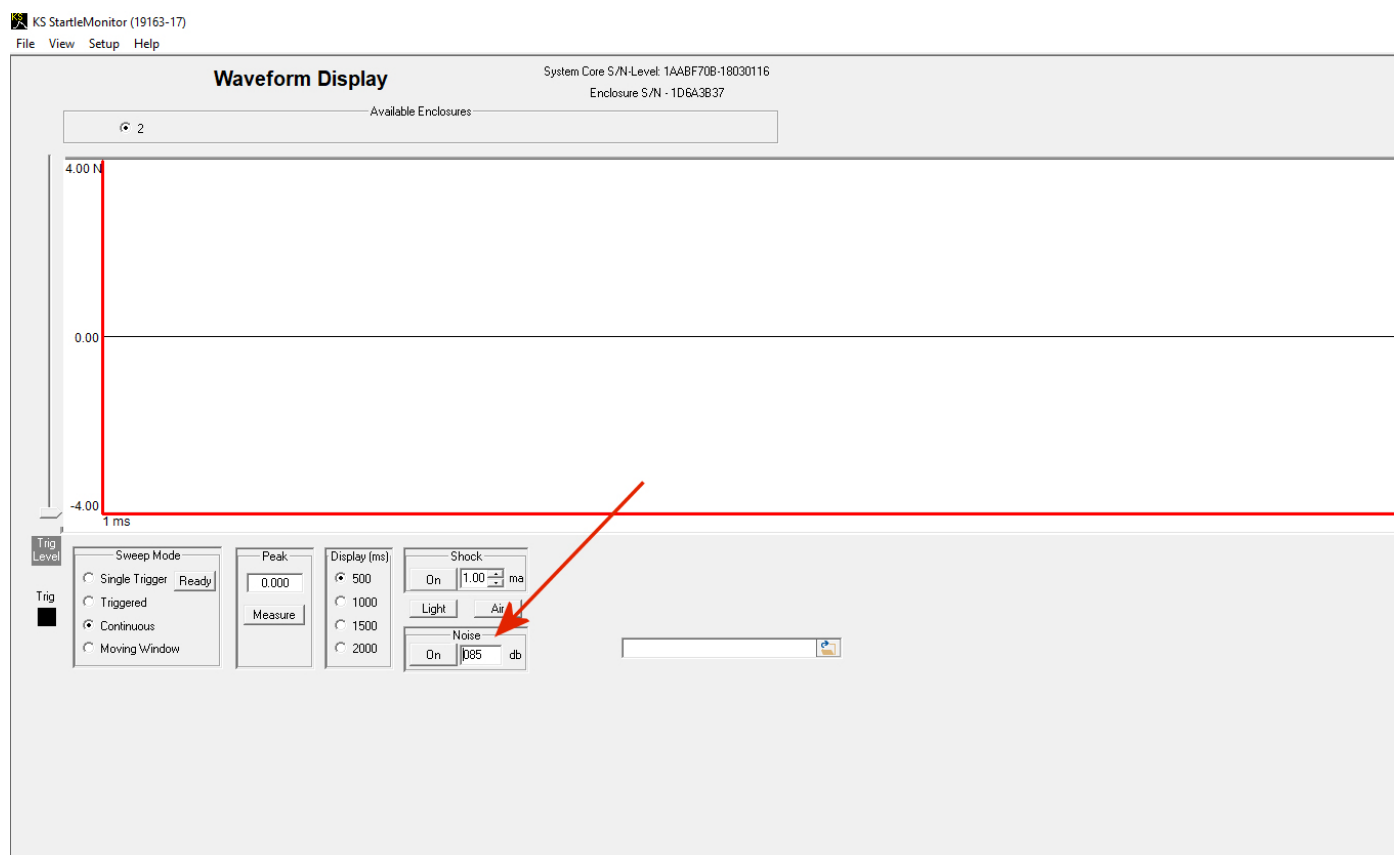

Figure 39 Diagnostic Screen Noise Level Setting
- Click on the View tab and select Diagnostic from the dropdown menu. A screen similar to that below (Figure 39) should appear.